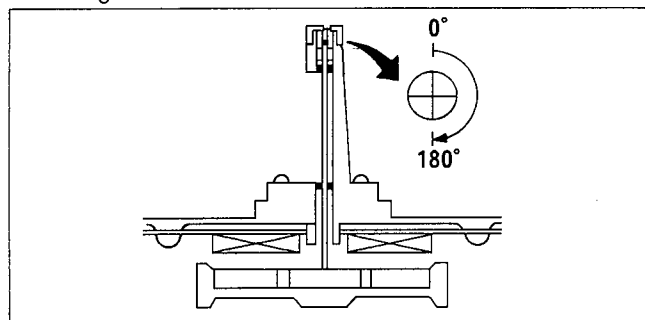

Figure M32
3. Set the 2 oil seal to edge of the capstan housing as shown in Figure M32.